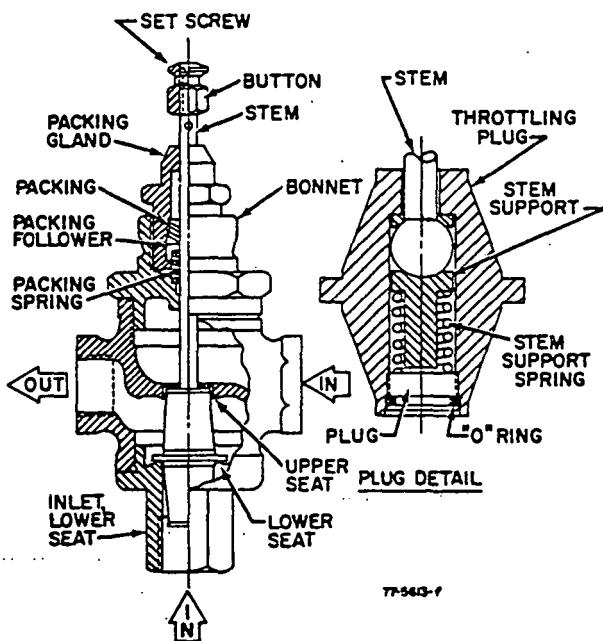

Fig. 6—Cutaway of Typical V5013A Screwed Type Body.
- b. Screwed Body 3-Way Valves (V5013A) — Lower port must be unscrewed from body to remove stem and plug. This requires removing valve from line (Fig. 6).